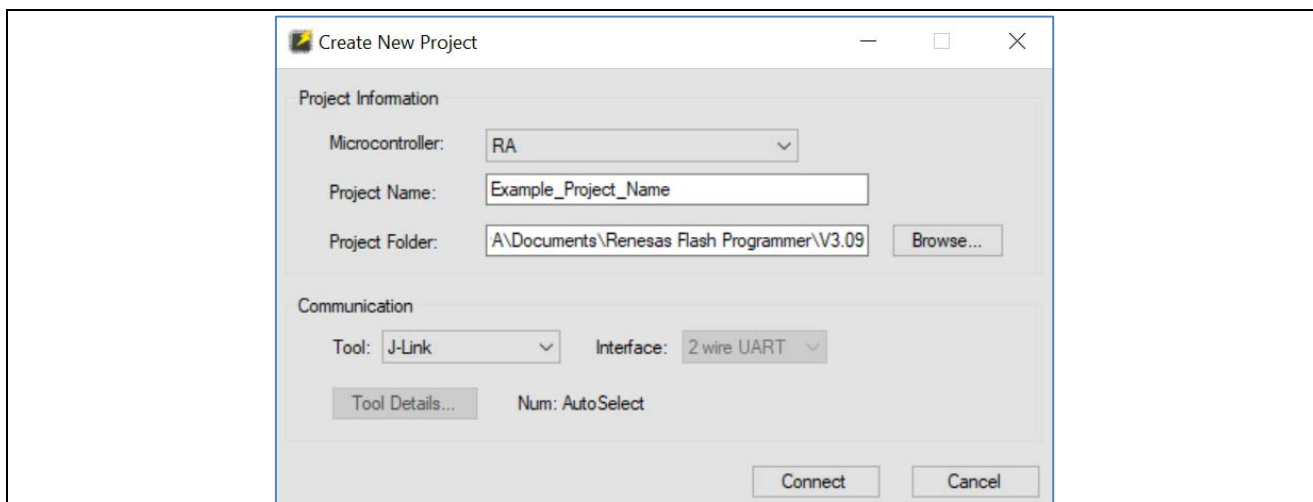

Figure 2. Creating a New Project on Renesas Flash Programmer
3. In the **Create a New Project** window (Figure 2), select the **RA** family from the Microcontroller drop-down menu. Next, enter a desired project name and select **J-link** for the communication tool. Click **Connect**.